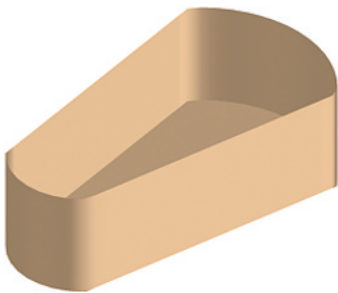

Fig. 18.28 Exercise 1 – first part
1. Construct suitable polylines to sizes of your own discretion in order to form the two surfaces to form the box shape shown in Fig. 18.28 with the aid of the **Rulesurf** tool.